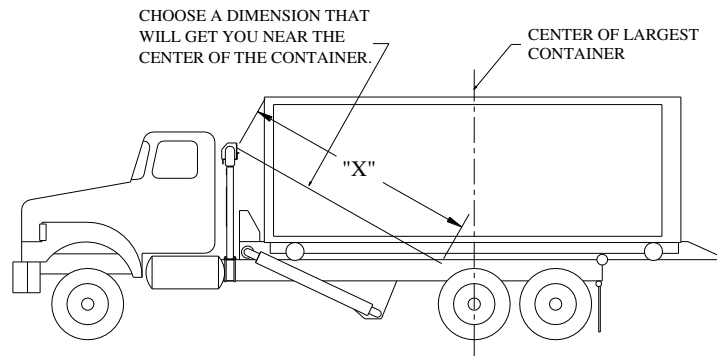

Figure 1
- 1) With the tower in the lowest position, take a measurement from where the tarp will enter the housing to a point that is slightly before the middle of the container and make a mark. REMEMBER THAT MEASUREMENT. Refer to Fig. 1 below.